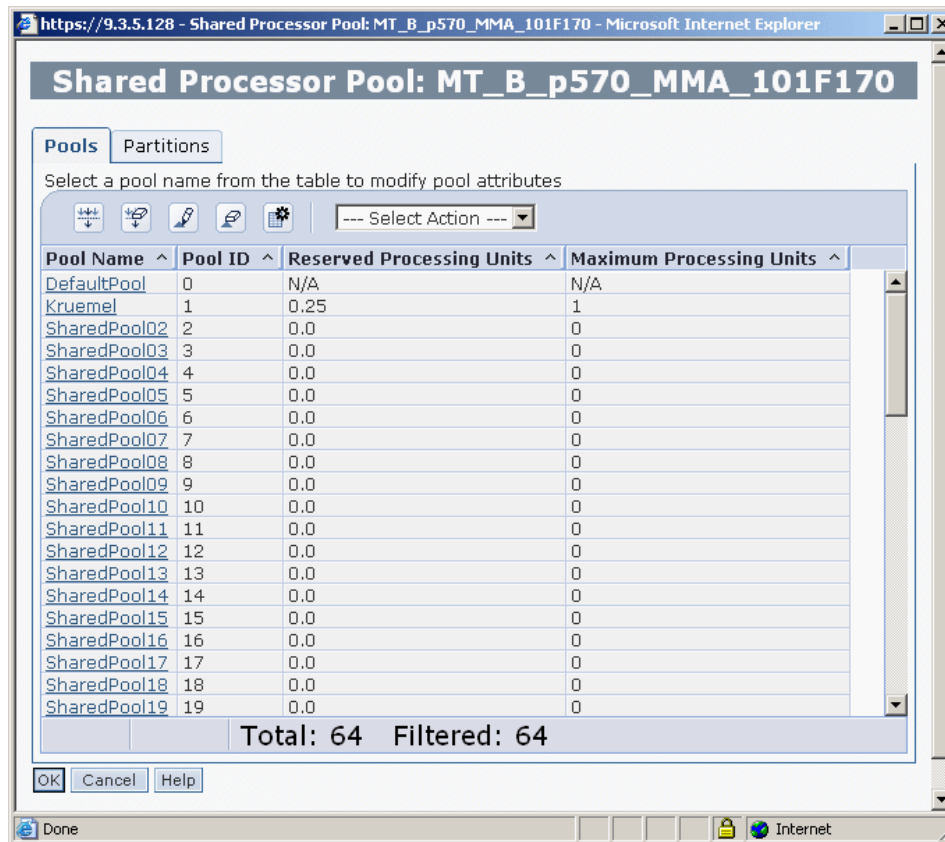

Figure 6-1 Shared Processor Pool
2. In the content pane, select the managed system whose shared processor pool you want to configure, click the Task button, and select **Configuration** → **Shared Processor Pool Management**. Figure 6-1 lists the available shared processor pools: